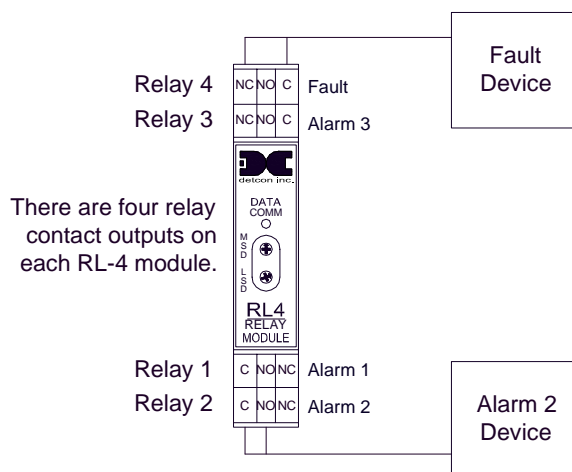

Figure 33 Model RL-4 Relay Output Module
There are four (4) Form C Single Pole Double Throw (SPDT), 5 Amp relays in each Model RL-4 module. Each relay in the module is assigned specifically to one alarm. Relay 1 is assigned to Alarm 1, relay 2 is assign to Alarm 2, relay 3 is assigned to Alarm 3, and relay 4 is assigned to Fault. These can be used to control (fire) annunciating devices or as signal inputs to other control devices. Connections to the relay contacts of the RL-4 module are shown in Figure 33 and are labeled C (Common), NO (Normally Open) and NC (Normally Closed). Note that the 5 Amp rating of the relay contact should not be exceeded. RL-4 modules are installed on the DIN rail of the controller.